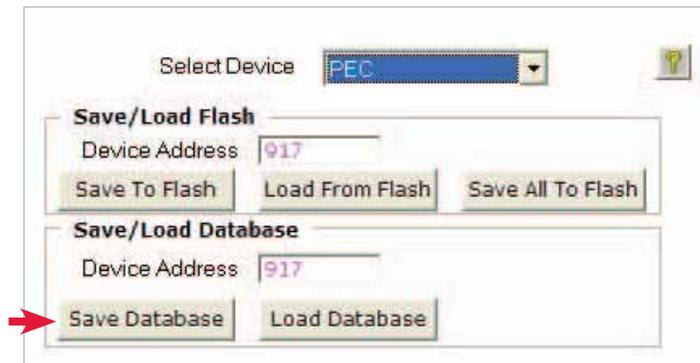

Figure 5.3-4: Device Selected for Database Save
3. Select the control from the Select Device drop-down menu. The device address will appear in pink text as shown in **Figure 5.3-4**. In this example, the Primary Equipment Control (PEC) was selected and confirmed by the 917 address.